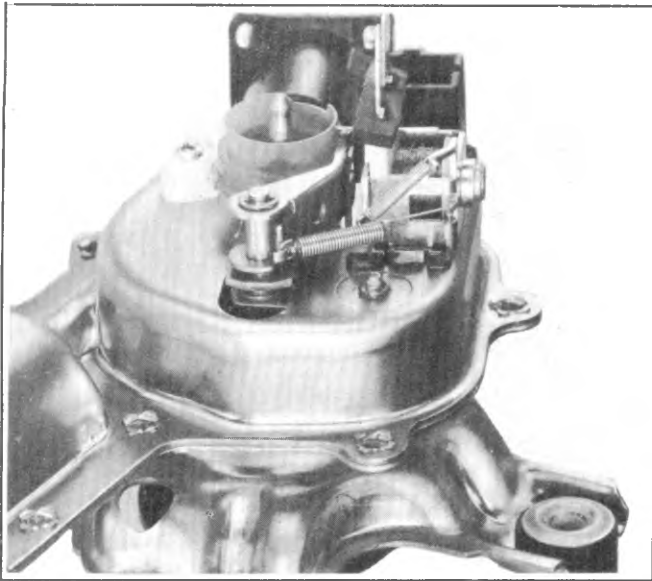

Fig. 8-12--Relay Coil Assembly
1. Bend retainer tabs as required to provide clearance for removing end cap assembly. Figure 8-12.
2. When re-assembling the crank arm, be sure wiper motor is in park (refer to figure 8-12), and assemble crank arm on shaft in position shown in Figure 8-12.